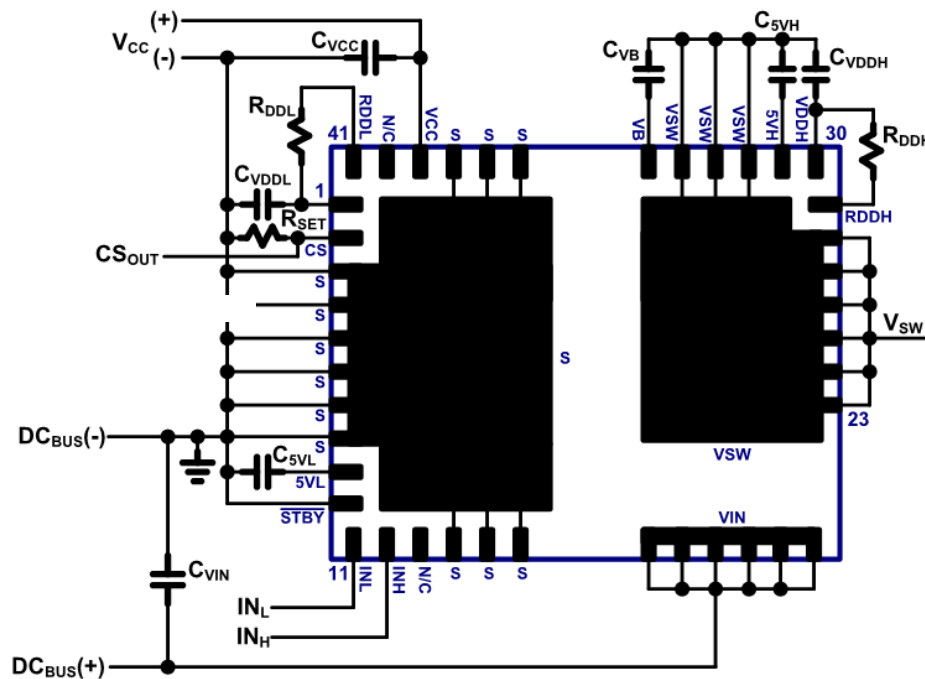

Fig. 24. IC connection diagram
The typical connection diagram for this GaN Half-Bridge IC is shown in Fig. 24. The IC pins include the drain of the high-side GaN power FET (V_{IN}), the half-bridge mid-point switched node (V_{SW}), the source of the low-side GaN power FET and IC GND (P_{GND}), low-side IC supply (V_{CC}), low-side gate drive supply (V_{DDL}), low-side turn-on dV/dt control (R_{DDL}), low-side 5V supply ($5V_L$), low-side referenced PWM inputs (IN_L , IN_H), low-side current sensing output (CS), auto-standby enable input (\overline{STBY}), high-side supply (V_B), high-side gate drive supply (V_{DDH}), and high-side 5V supply ($5V_H$). The external low-side components around the IC include V_{CC} supply capacitor (C_{VCC}) connected between V_{CC} pin and P_{GND} , V_{DDL} supply capacitor (C_{VDDL}) connected between V_{DDL} pin and P_{GND} , turn-on dV/dt set resistor (R_{DDL}) connected between V_{DDL} pin and R_{DDL} pin, current sense amplitude set resistor (R_{SET}) connected between CS pin and P_{GND} , 5V supply capacitor (C_{5VL}) connected between $5V_L$ pin and P_{GND} , and the auto-standby enable pin (\overline{STBY}) connected to P_{GND} to enable auto-standby mode or connected to $5V_L$ to disable auto-standby mode. The external high-side components around the IC include V_B supply capacitor (C_{VB}) connected between V_B pin and V_{SW} , V_{DDH} supply capacitor (C_{VDDH}) connected between V_{DDH} pin and V_{SW} , turn-on dV/dt set resistor (R_{DDH}) connected between V_{DDH} pin and R_{DDH} pin, and 5V supply capacitor (C_{5VH}) connected between $5V_H$ pin and V_{SW} . The high side V_B , $5V_H$ and V_{DDH} bypass capacitors must be chosen carefully to accommodate various system considerations such as high side wake up time, high side hold up time and standby power.